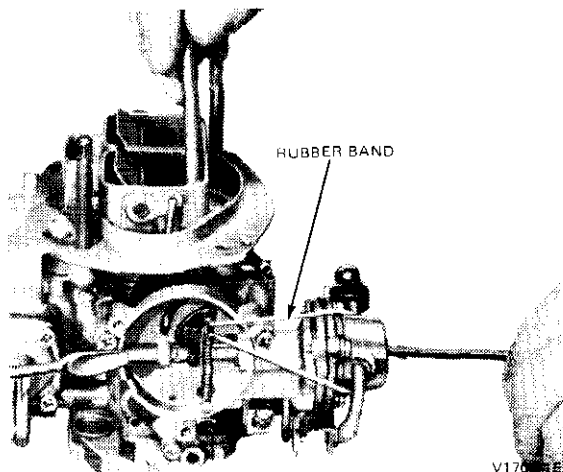

FIG. 9 Measuring Choke Plate Pulldown
4. Using a screwdriver, push the diaphragm stem back against its stop (Fig. 9). Place a specified gage rod or drill between the lower edge of the choke plate and the air horn wall.